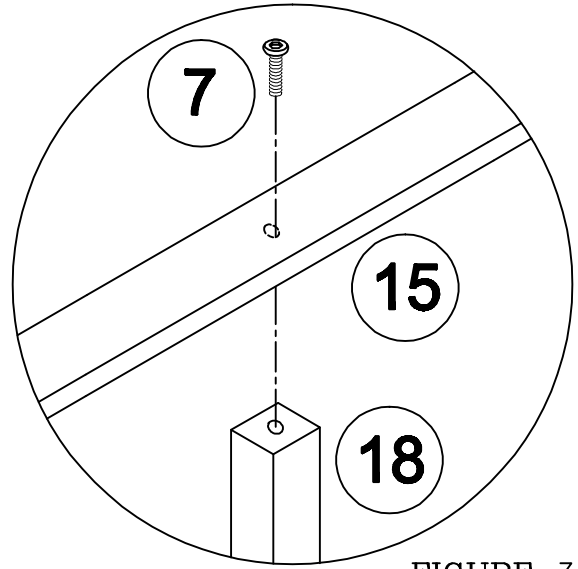

FIGURE 3
- Repeat same step for assembly of footboard panel (12) to side rails (13).
- Align holes on top of support legs (18) with holes on slats (15). See Figure 3
- Secure support legs (18) with screw (7) use allen wrench (7).